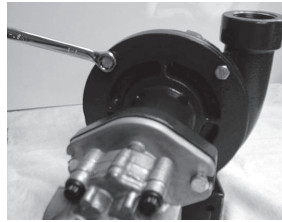

Fig. 1
1. Remove the four bolts on the volute using a 9/16" wrench. Fig. 1.